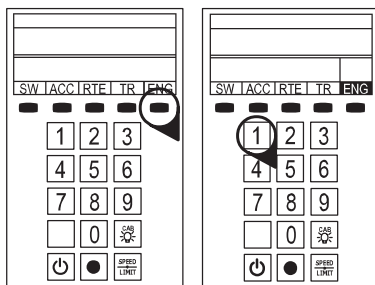

Figure 2. LEGACY engine selection
4. **As illustrated in Figure 2, press ENG and 1 (or your selected ENG ID#) to address the locomotive with your LEGACY CAB-2 Remote Controller.**